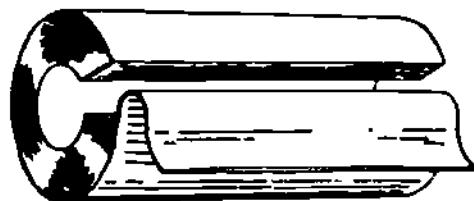

Figure 36-5. Fibreglass Insulation
7. Fibreglass pipe insulation is used within buildings perhaps more than any other type of insulation. It is made of very fine glass fibres bound together by an inactive resin-type mixture. It comes as a flexible hollow tube that is slit along its length to be applied to pipes and tubing, and is also shaped to fit small boilers and hot water heaters. Fibreglass insulation comes in 900 mm lengths and in thicknesses of 13 mm to 51 mm. It has long life, will not shrink, swell, rot, or burn, is easily applied, and has the advantages of being lightweight and space-saving (Figure 36-5).